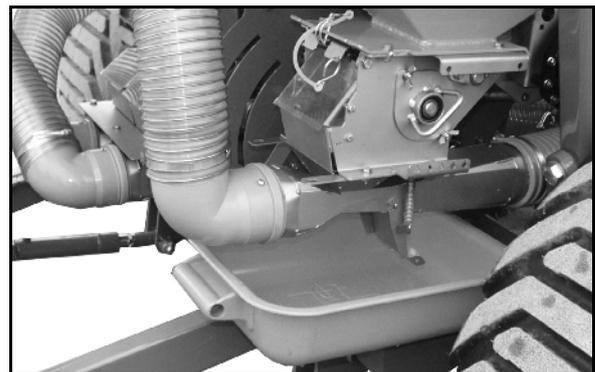

Fig. 119
- o Fig. 119: Calibration trough under the fertiliser dosing unit.